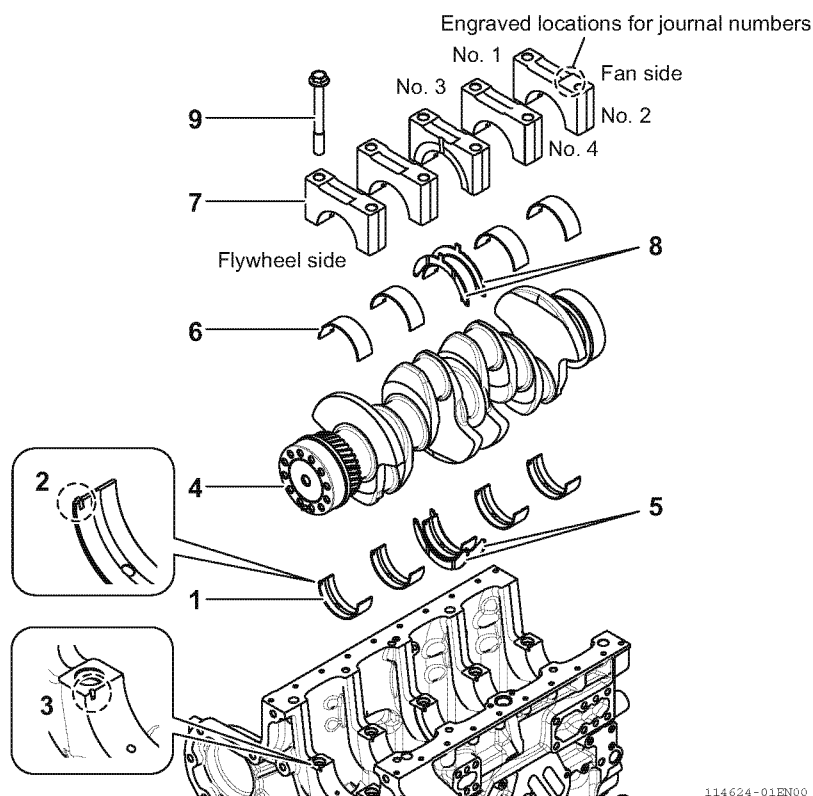

Fig.13-11
1. Attach the removed crank pin bearing (up) (piston side) (1, Fig.13-11) to the original position of the cylinder block. Here, attach the protruded part of the bearing (2, Fig.13-11) so that it fits the groove on the block side (3, Fig.13-11). Apply plenty of clean engine lubricating oil to the gasket surface.
2. Lift the crankshaft (4, Fig.13-11) using a crane, and slowly place it on the cylinder block.
3. On both sides of the center bearing, insert a thrust bearing (up) (5, Fig.13-11) with its flat surface facing to the middle.
4. Apply clean lubricating oil to the journal part of the crankshaft. Then, attach the removed crank bearing (low) (oil pan side) (6, Fig.13-11) to the original position of the crankshaft. Attach so that the protruded part of the bearing fits the groove of the bearing cap.
5. Attach the removed bearing cap (7, Fig.13-11) to the original position. The bearing cap is engraved with a journal number and an arrow facing up. The journal numbers 1 to 5 count up from the flywheel side, and the arrow points the flywheel. Check the number and the arrow, and attach with the correct position. Journal numbers 1 to 5 are engraved also on the cylinder block side corresponding to the metal cap.
6. On both sides of the center bearing, insert a thrust bearing (low) (8, Fig.13-11) with its flat surface facing to the middle.
7. Apply clean engine lubricating oil and extreme pressure additive (5 %) to the thread part of the bearing cap bolt (9, Fig.13-11) and the bolt seat, and temporarily tighten the No.1 bolt on the fan side with 25 N·m. Next, after tightening the No. 2 bolt with 65 N·m, angle-tighten it at 105°. Return to No. 1. Tighten with 65 N·m and angle-tighten at 105°. Repeat this from No. 3 and after.